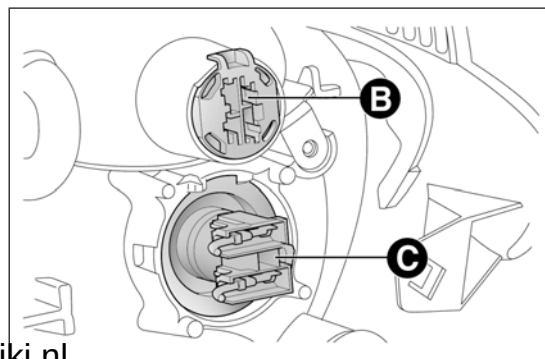

fig. 132
- ❑ remove bulb holder B fig. 132, remove the bulb and replace it;
- ❑ remove bulb holder C fig. 132, remove the bulb and replace it;